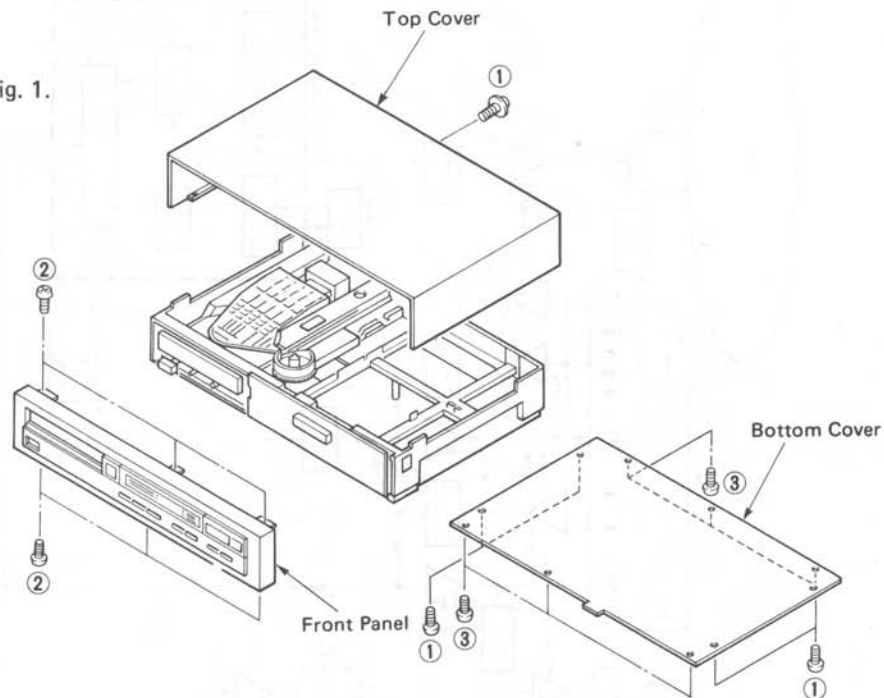

Fig. 1
Remove 5 screws (①) in fig. 1, and slide the Top Cover to the back.
Remove 7 screws (②) in Fig. 1, and pull the Front Panel forward.
Remove 6 screws (③) in fig. 1.